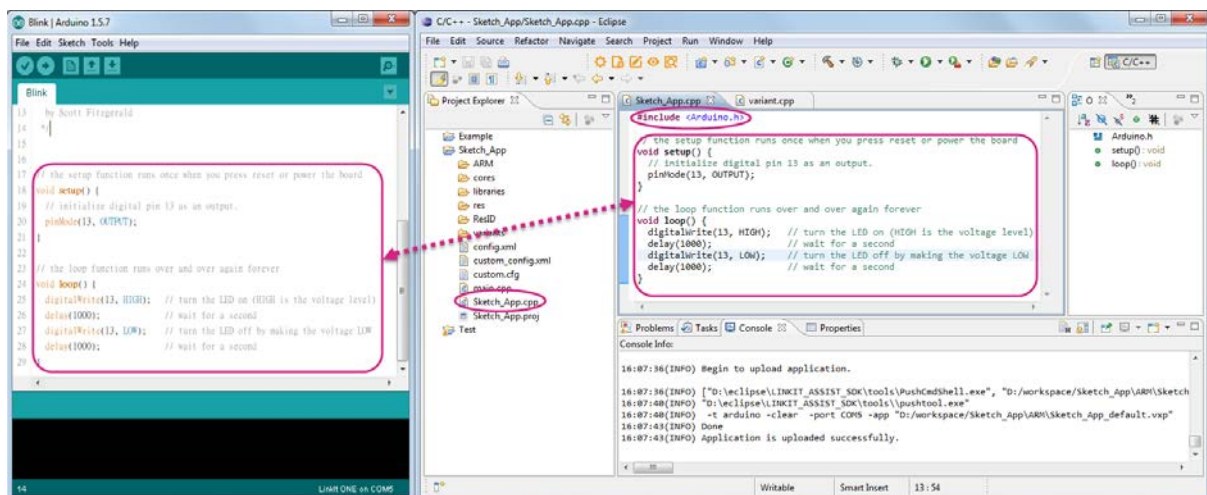

Figure 56 Importing Arduino sketch code by copying it
- b) Copy and paste the content of your Arduino sketch into **Sketch_App.cpp**. Insert `#include <Arduino.h>` at the start of the .cpp file to include Arduino header files, this is because the Arduino IDE has this `#include` path by default but the Eclipse IDE doesn't. As an example, Figure 56 shows the Arduino Blink code being copied into the .cpp file. Alternatively, you can delete **Sketch_App.cpp** and replace it with your own sketch file by changing the suffix of your sketch file from *.ino to *.cpp.